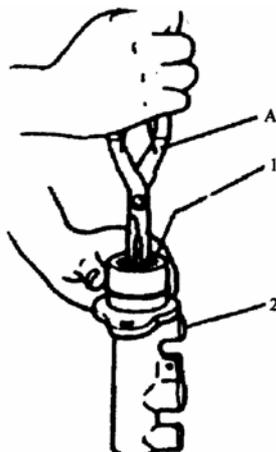

FIG.16-57 1.Circlip 2.Cylinder body
(2) Remove circlip using special tool. (FIG.16-57)
(2) Install primary piston, washer, cup and stopper sealing .When installing circlip, use special tool. (FIG.16-57)